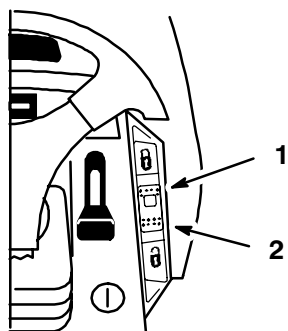

Figure 15
The cruise control is optional on some models. A 3 position: Set-Lock (spring loaded), On and Off-Unlock dash switch (Fig. 15) controls the engagement. Cruise control maintains the traction control position without foot pressure. Cruise control is intended for operation in the forward direction only. Do not use cruise control in reverse.
1. Begin driving tractor: Refer to Driving Forward or Backward, Page 16. While holding your foot steady on the traction control, push the cruise control switch (Fig. 15) to the “SET”-“LOCK” position.
1. While holding your foot steady on the traction control, move the cruise control switch (Fig. 15) to the “UNLOCK”-“OFF” position.